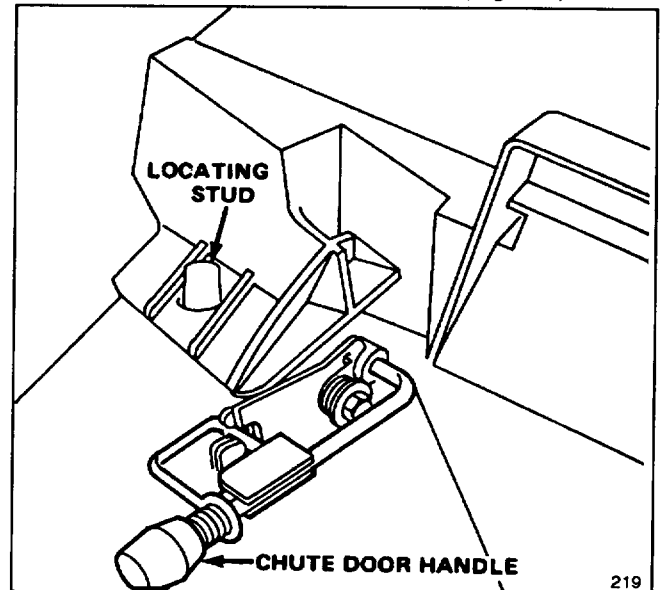

Figure 12
2. Assure chute door handle is fully forward and lockout lever is released into latch (Fig. 12).
3. **INSTALLING BAG**—Slide hole in bag frame onto retaining collar on housing (Fig. 12) and set rear of bag frame onto support rod on handle.
5. **EMPTYING BAG**—Stop engine and wait for blade to stop. Move chute door handle forward until it locks in the latch (Fig. 12). Grasp handle at front and rear of bag and lift bag off mower. Gradually tip bag forward to empty clippings.